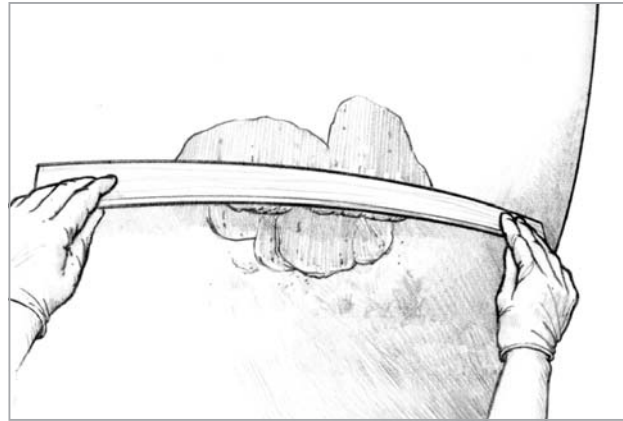

Figure 6 On large areas, use a batten to shape the compound after applying it with a spreader.
5. Use a batten to help shape larger areas. After slightly overfilling the area with a spreader, slowly drag a batten across the filled area while bending it to the contour of the surrounding fair areas (*Figure 6*). A slight "Z" or back and forth motion of the batten can help to reduce the drag of the fairing compound. Allow the fairing compound to cure thoroughly before sanding.